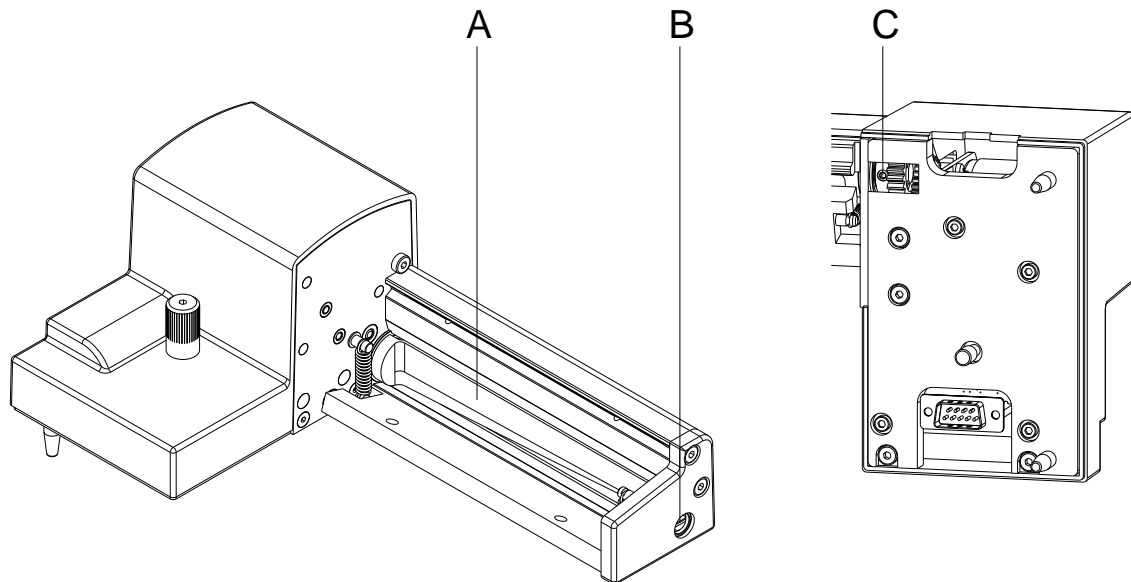
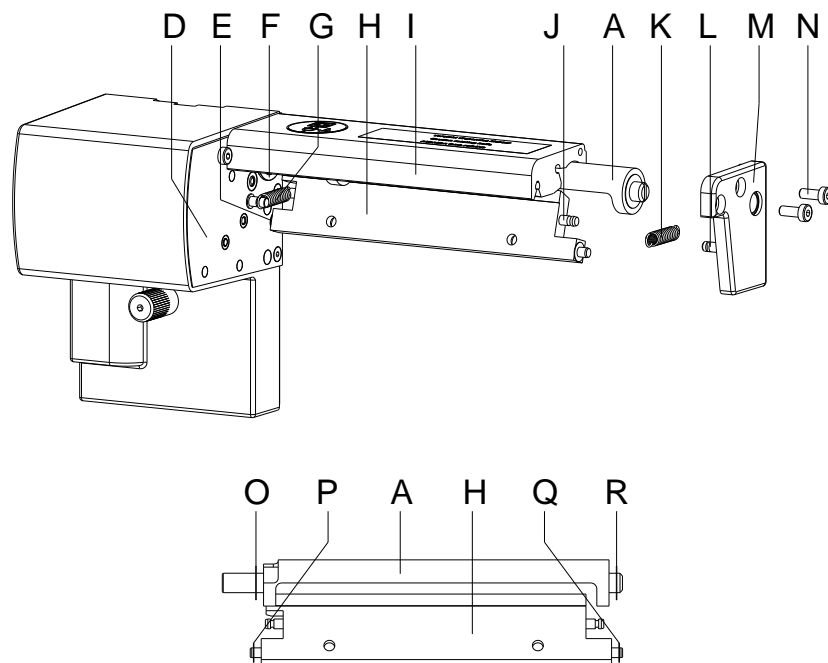

Figure 16
Figure 17
When dismantling, ensure the washers (O, P, Q, R, Figure 17) at the axes of the cutter shaft (A) and cutter blade (H, Figure 17).
The built-in springs (G and K, Figure 17) are tensioned. This can lead to injuries or the loss of the springs when dismantling the cutter blade.
⇒ Hold the cutter blade (H, Figure 17) firmly and press the cutter axis slightly against the mounting panel.
1. Loosen the screws (N) and remove the bearing plate (M). The spring (K) is released the tension.
2. Remove the spring (K) from the cutter blade (H).
3. Pull the cutter shaft (A, Figure 16) out of its bearing (F). The spring (G) is released the tension.
4. Remove the spring (G) and cutter blade (H).
5. Insert the axis of the new cutter blade (H) with the washer (16) into the bearing bush (E) on the mounting panel (4).
6. Mount the released spring (G) to the pins of the mounting panel (D) and cutter blade (H).
7. Push the cutter blade (H) backwards. The spring (G) is tensioned.
8. Insert the axis of the new cutter blade (A, Figure 16) with the washer (15) into the bearing bush (F) on the mounting panel (D).
9. Place the washer (Q) on the axis of the cutter blade and the washer (R) on the axis of the cutter shaft (A, Figure 16).
10. Mount the released spring (K) to the pins (J and L) of the cutter blade (H) and bearing plate (M).
11. Place the bearing plate (M) onto the axes of the cutter (A, Figure 16 and H). This causes the spring (K) to tensioned.
12. Loosely fasten the bearing plate (M) with the screws (N) at the profile (I).
13. Align the bearing plate (M, Figure 17) precisely to the profile (9, Figure 17) and tighten the screws (N, Figure 17).
14. Tighten again the threaded pin (C, Figure 16) at the gear.
15. Lubricate the cutter shaft (A, Figure 16; see chapter 4.5, page 18) and bring it into initial position (see chapter 4.6 Reset the Cutter to Initial Position, page 19).